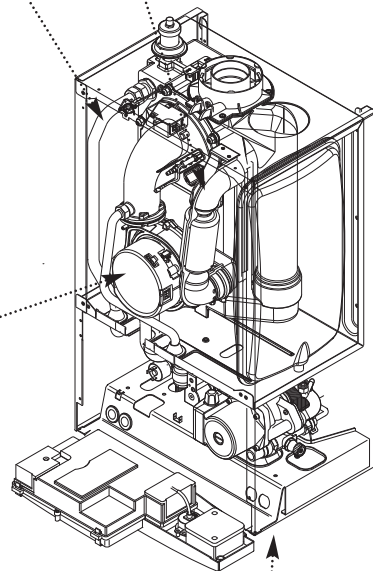

Fig. 75
15. Turn the tap off and draw off from a hot tap. Undo the blanking cap and remove the threaded bush (Fig. 75).